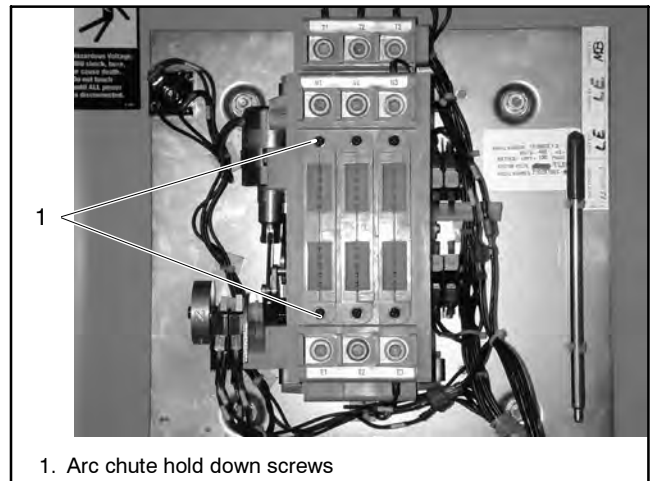

Figure 6-7 Arc Chute Screws
5. Remove the arc chute hold down screws. See Figure 6-7.